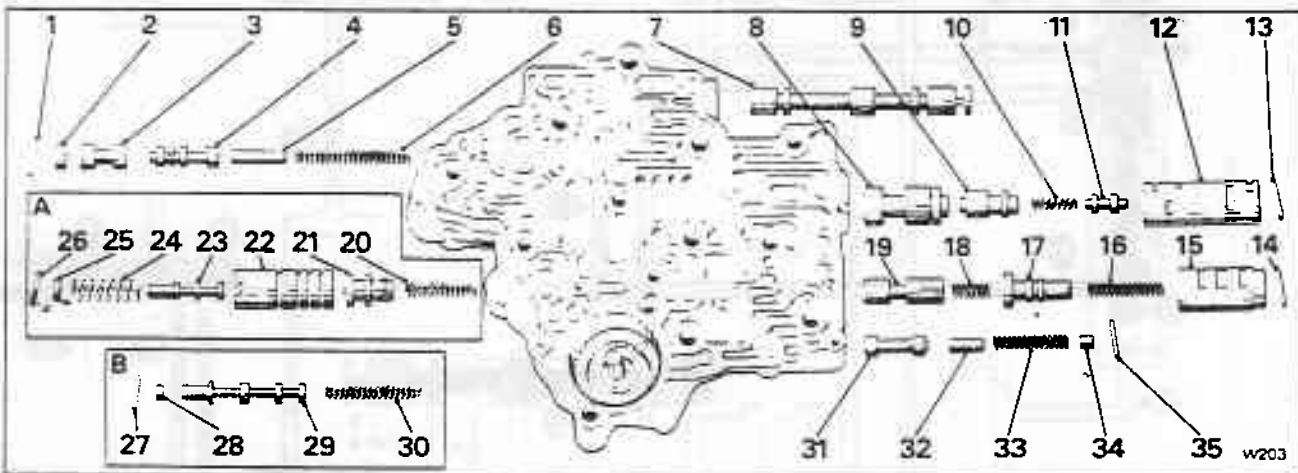

Fig. T12-13 Control valve unit
1. Hold the control valve unit with the cored passages uppermost and the accumulator piston bore to the front, as shown in figure T12-13.
**Refer to figure T12-13 during assembly procedure**